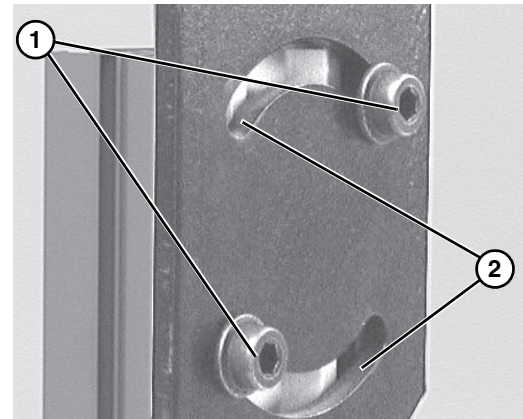

Figure 24
To rotate stand top plate, screws (Figure 24, item 1) may need to be re-located to other t-slots (Figure 24, item 2).
1. Loosen flange socket screws (Figure 24, item 1) on both sides of stand.
<p>Failure to secure screws (Figure 24, item 1) may cause conveyor sections to drop down, causing severe injury.</p> <p>TIGHTEN SCREWS (Figure 24, item 1) AFTER ADJUSTMENT.</p>
3. Secure flange socket screws (Figure 24, item 1) to 24 ft-lb (18 Nm).